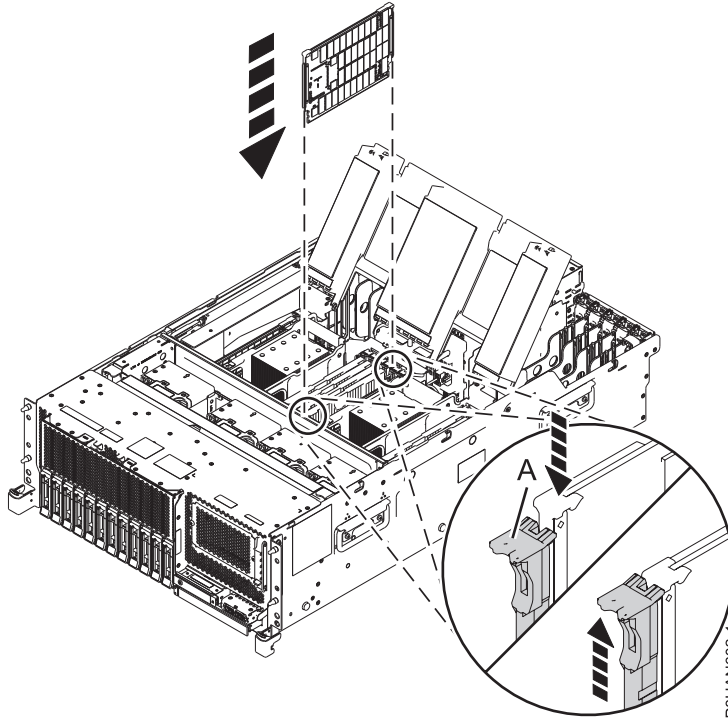

Figure 3. Installing or replacing a memory module in the 8247-42L, 8286-41A, or 8286-42A system
5. Press the memory module firmly into the slot until the locking tab (A) locks in place. See Figure 3 on page 6.